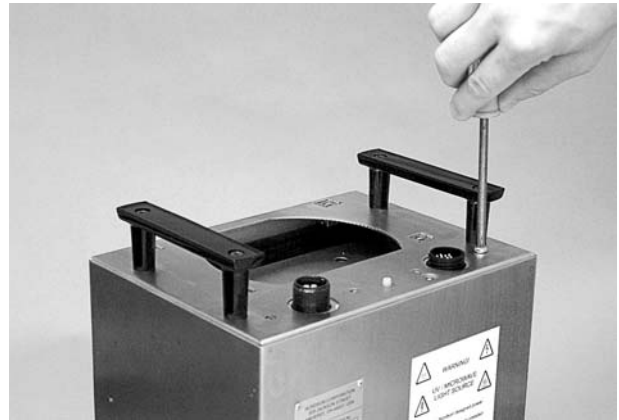

Figure 4-9 Lamphead Cover Removal (Top Four Screws)
5. See Figures 4-9 and 4-10. Remove the 12 screws from the lamphead cover to remove the cover.